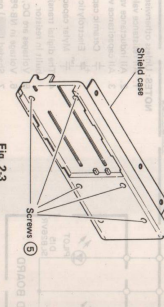

Fig. 2-3
3. Remove screws (3) and (4). Now lift the heat sink to remove connector (5). The main board can now be removed.
4. After the main Board is removed, remove screws (5) and the shield case as shown in Fig. 2-3. Now the sub-board can be removed.